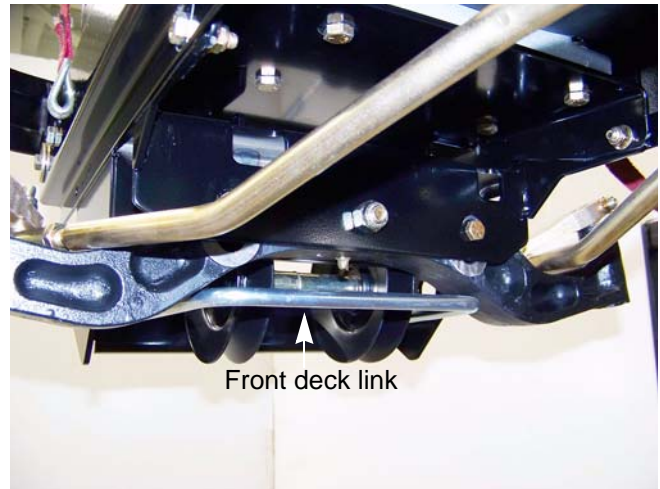

Figure 6A.23
4. Slide the front deck link forward, out of the way. See Figure 6A.23.
6. Remove the two travel stop bolts using a pair of 9/16" wrenches. See Figure 6A.24.